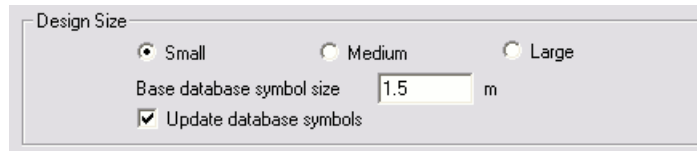

Figure 4-37
4. Select the **Misc** tab and click the “**Medium Design Size**”. Change the “**Base Database Symbol Size**” to **10ft (3m)** as shown in Figure 4-37. This determines the size of the symbols according to the size of the design. When you are finished click **[OK]**.